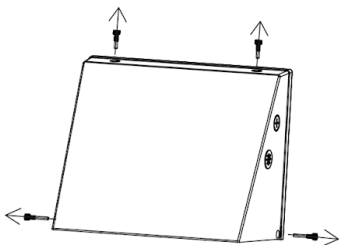

Fig. 1.1
1. Loosen and remove the 4 screws on the top and sides of the luminaire (Fig. 1.1).